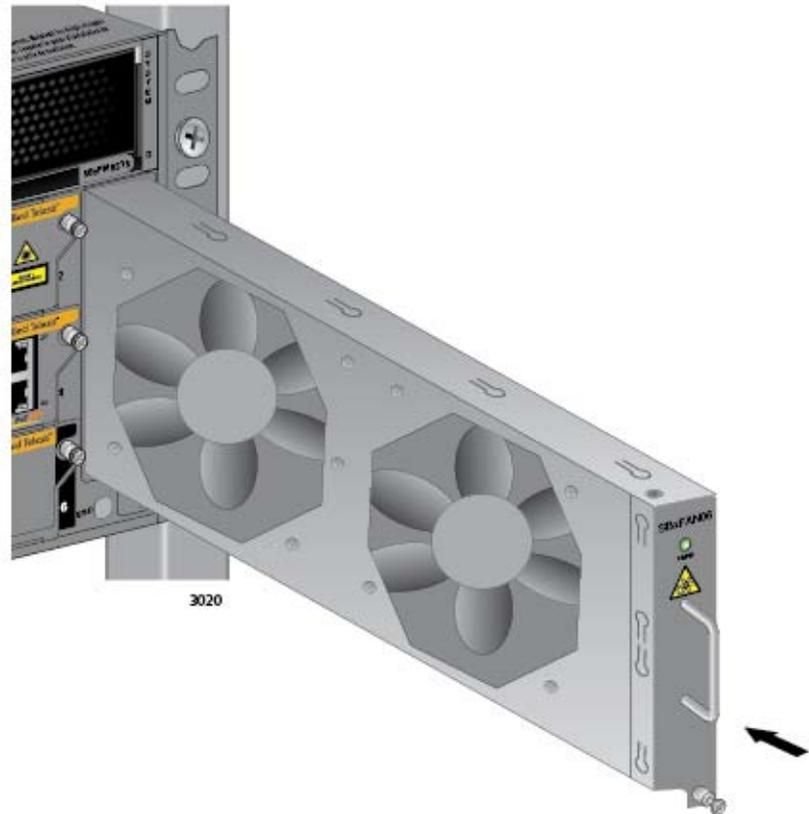

Figure 157. Installing a New AT-SBxFAN06 Fan Module
1. Orient the new module with the LED and module name on top and carefully slide the module into the slot in the chassis. Refer to Figure 157 on page 230.